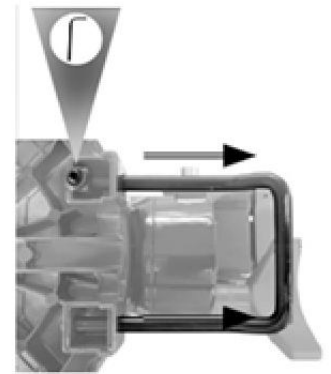

Fig. 2
3. Slide a flat washer over a 1/4 x 1 in. wood screw, insert the screw through a corner hole in the base and secure the base (Fig.2).